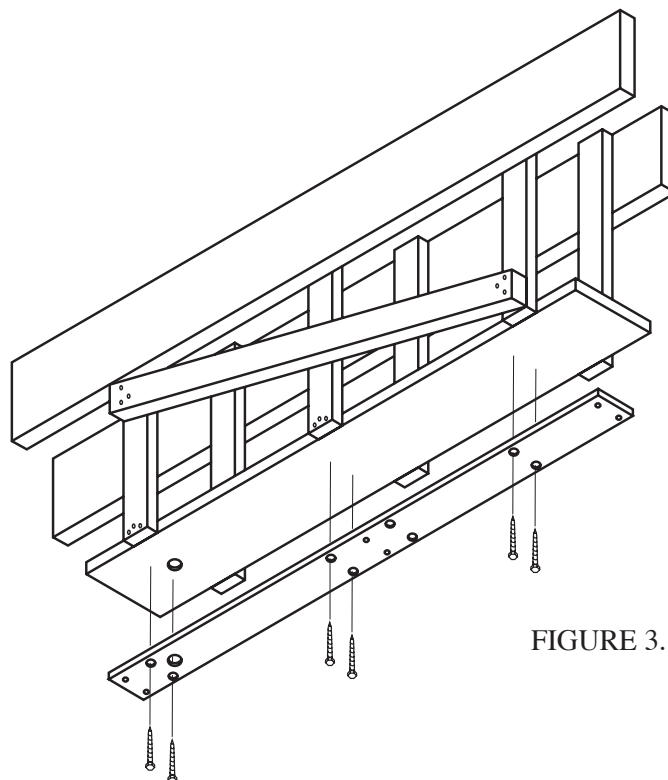

FIGURE 3.
- 3) For suspended ceilings on, appropriate rigid structure must be attached to ceiling framework to provide 200 lb. dead weight capacity. (SEE FIGURE 3.)